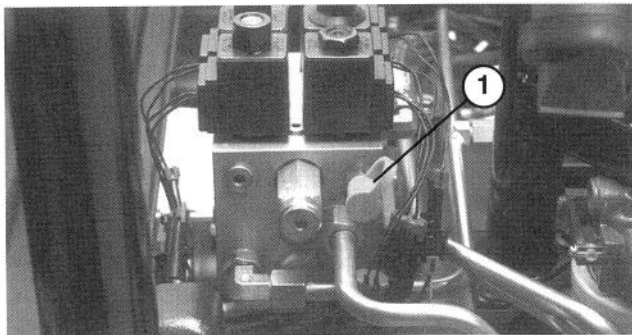

Figure 55
2. Test Port #2 (Fig. 55) is used to assist in trouble shooting the hydraulic circuit for the rear cutting units.